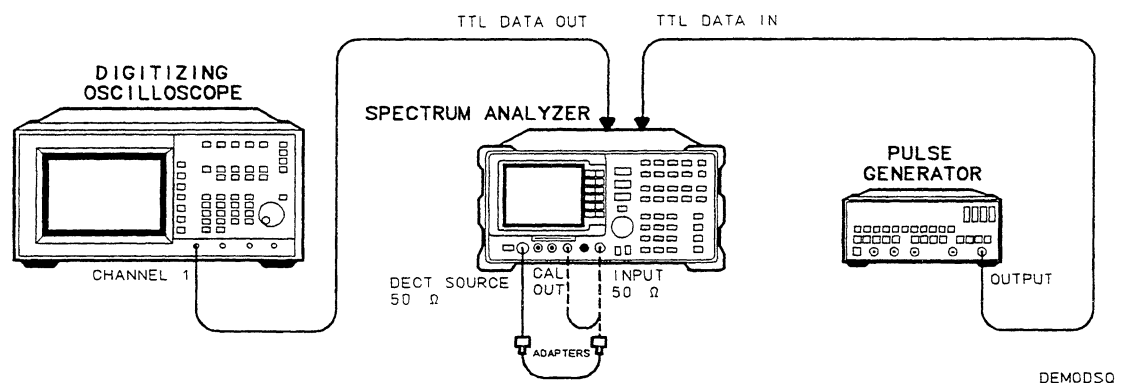

Figure 9-13. Demodulator Squaring Test Setup
- Connect the 23 cm BNC cable between the DECT SOURCE 50 Ω and INPUT 50 Ω connectors on the spectrum analyzer, using the N(m) to BNC(f) adapters. Refer to Figure 9-13.
- Connect the spectrum analyzer rear panel DATA OUT connector to channel 1 of the oscilloscope. Refer to Figure 9-13.